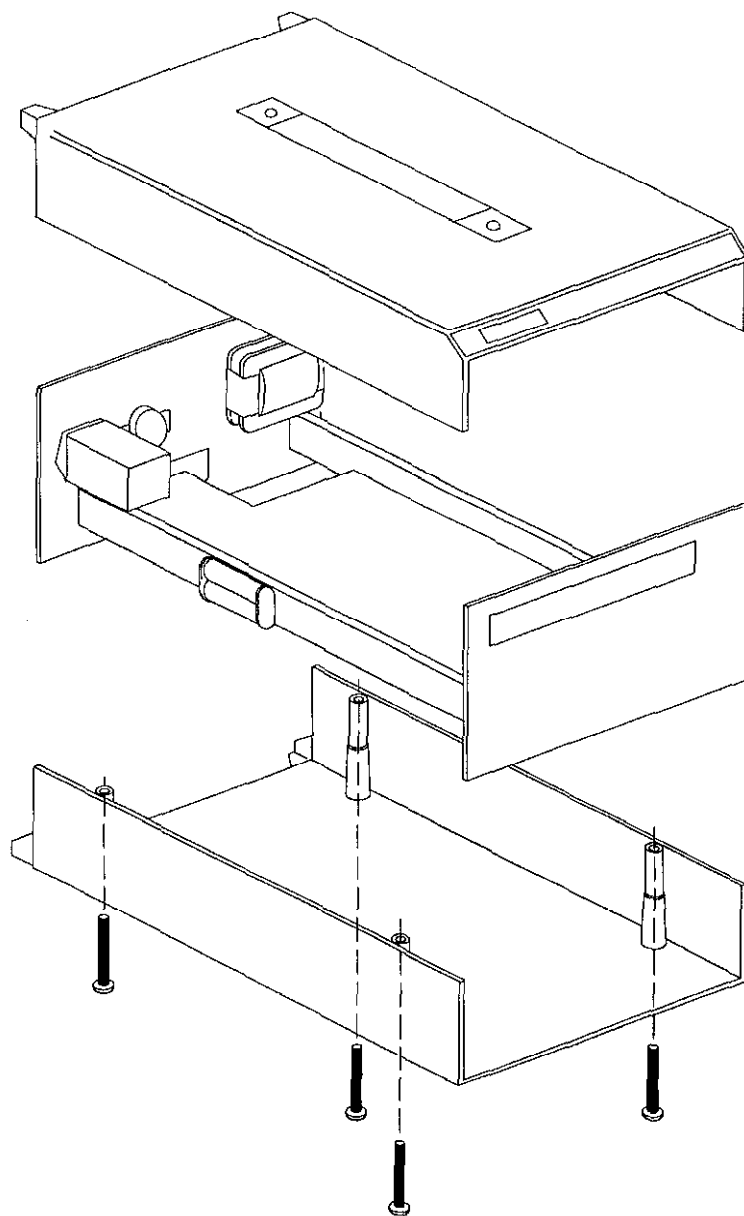

Figure 3-11. Cover Removal
4. Turn the Model 3910 upside down, and remove the four Phillips head screws shown in Figure 3-11.